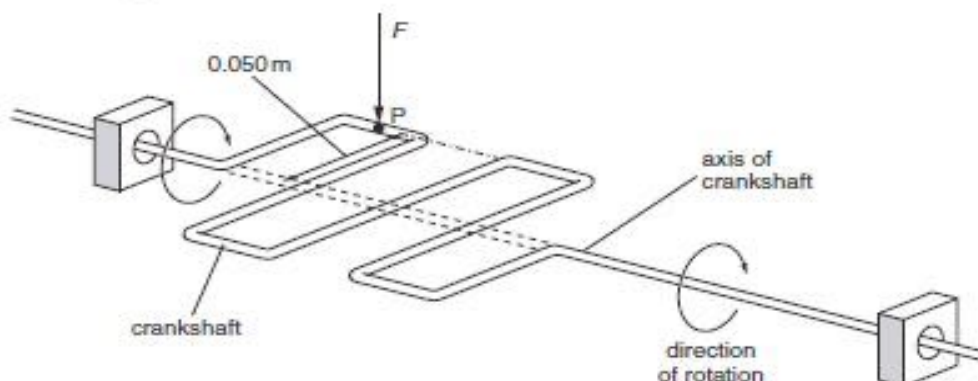

Fig. 11.1
- 1 A crankshaft is a shaped metal bar that is part of a car engine. It is free to rotate about an axis, as shown in Fig. 11.1.